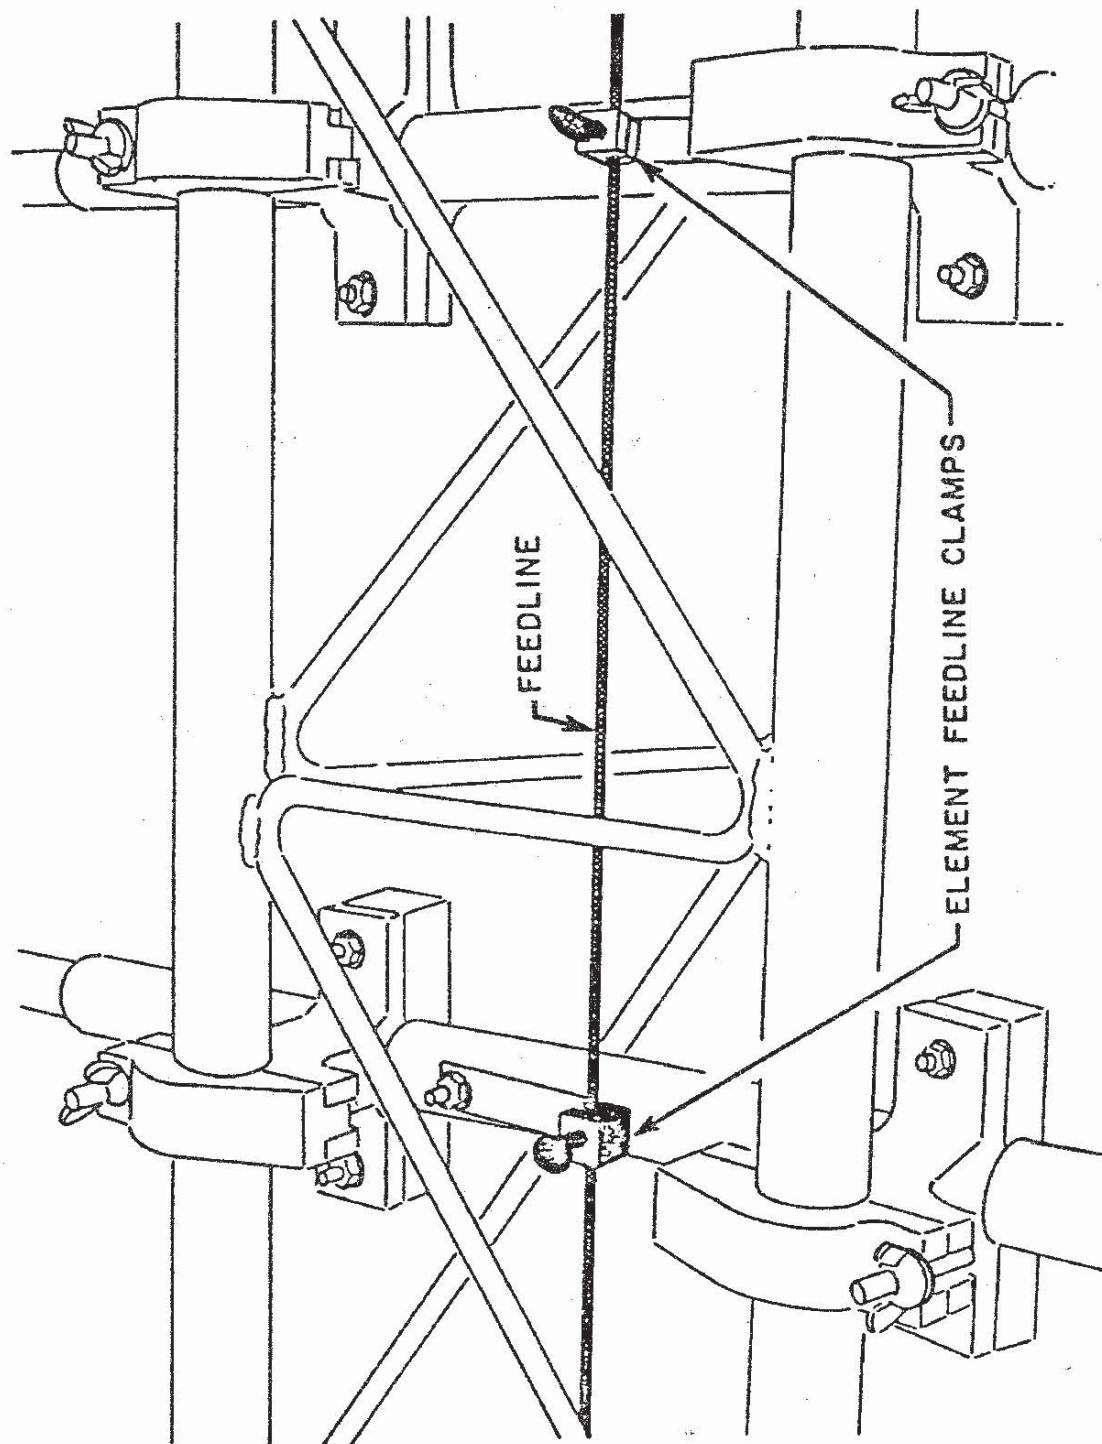
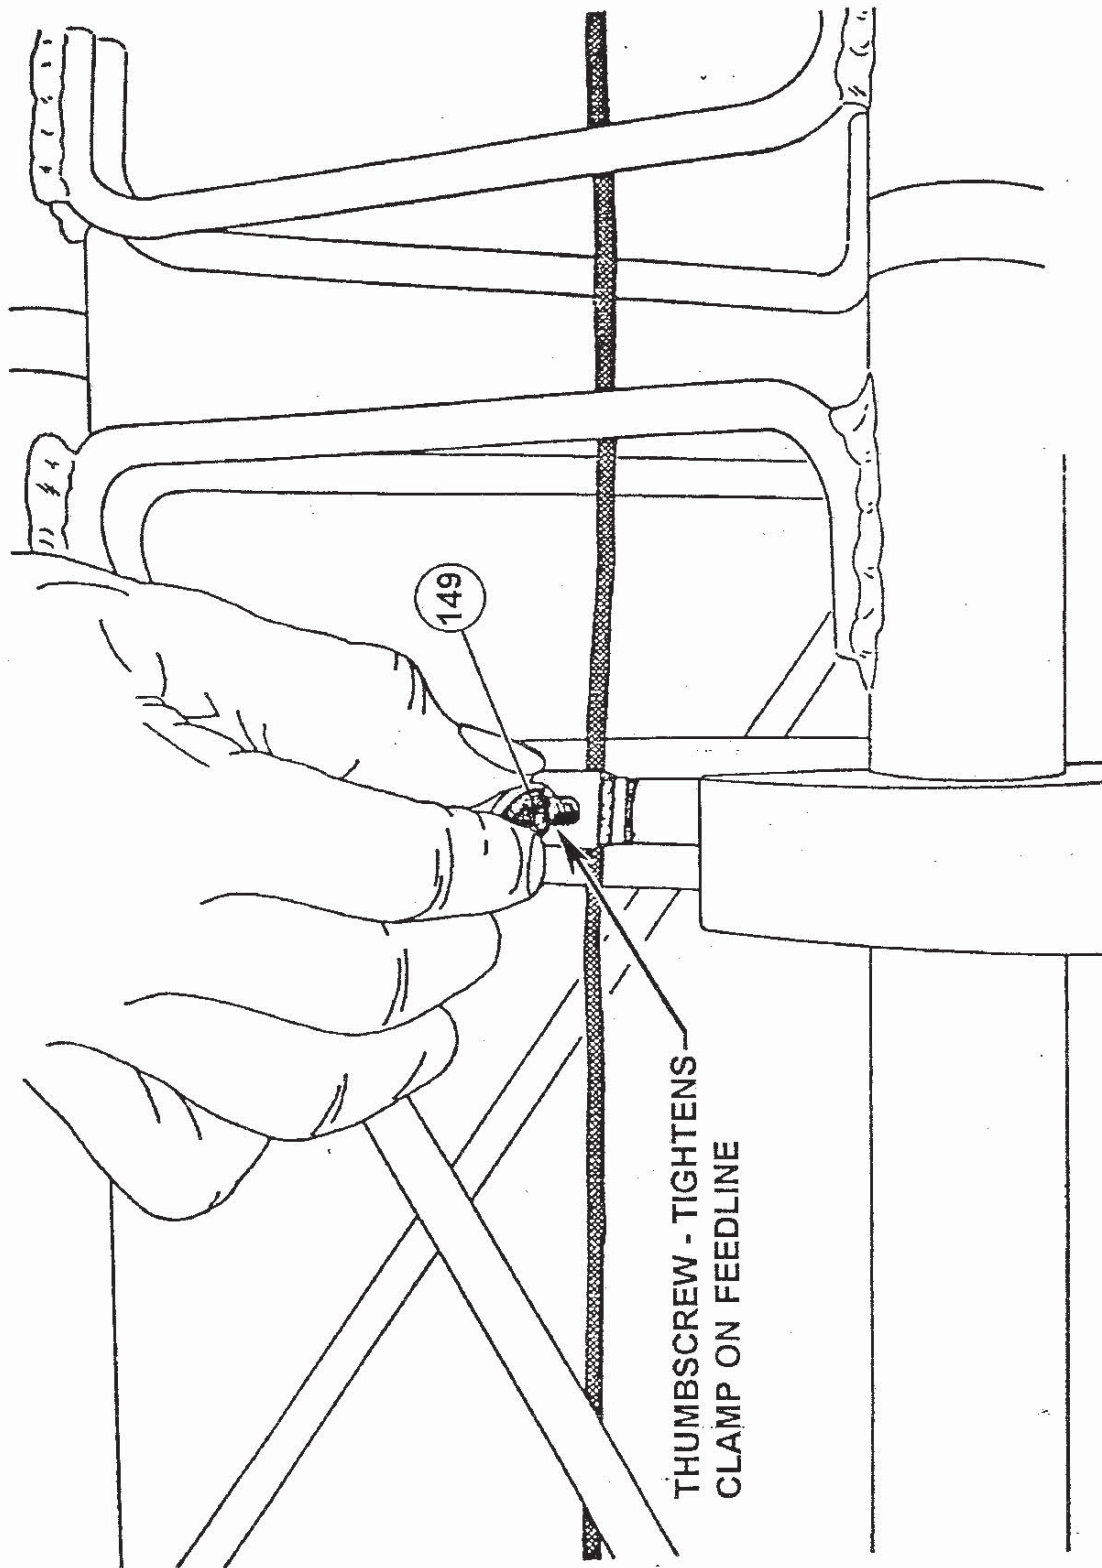

Figure 2-40
Figure 2-41
- o. Refer to Figure 2-40 and attach the feedline to the element feedline clamp, alternating each connection as shown. Figure 2-41 shows hand tightening of the thumb screw to make a secure connection between each element and the feedline wire.